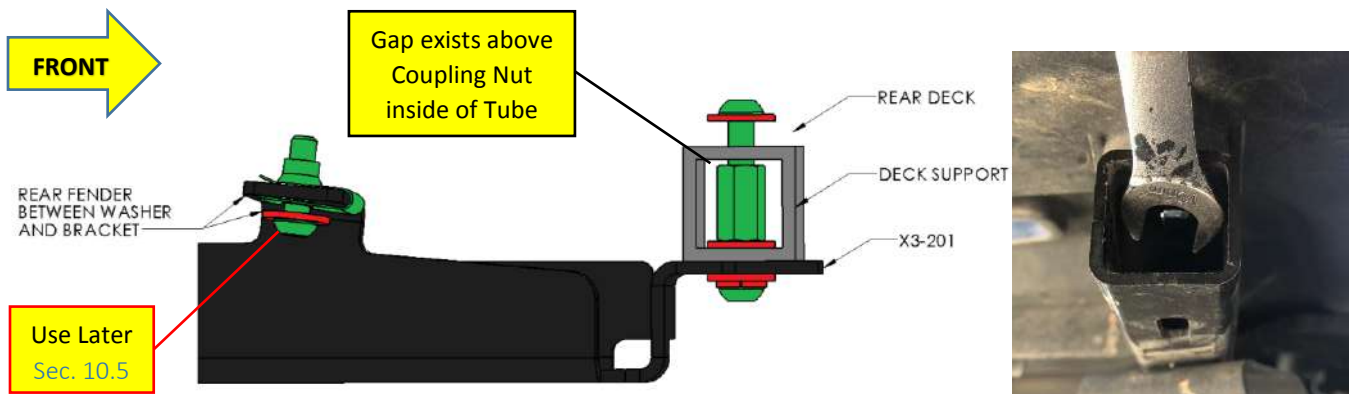

Figure 11 – Installing Rear Air Tank Bracket, Proper Bolt Orientation (partial bracket shown)
- 8.6.4. Once Air Tank is properly positioned, **final torque all Air Tank bolts and then rear Bracket bolts**, per figure 11 above.